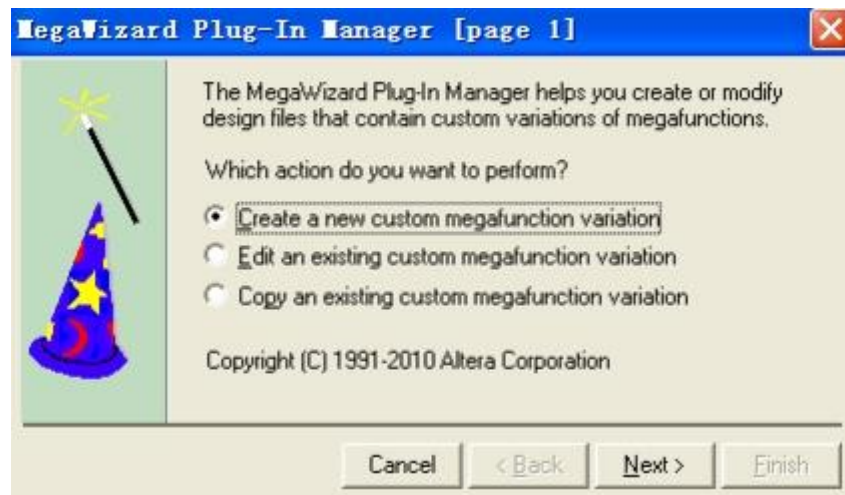

Figure 3-8 Mega Wizard Plug-In Manager
2. Click Megawizard Plug-in Manager. The MegaWizard® Plug-In Manager appears (see **Figure 3-8**).